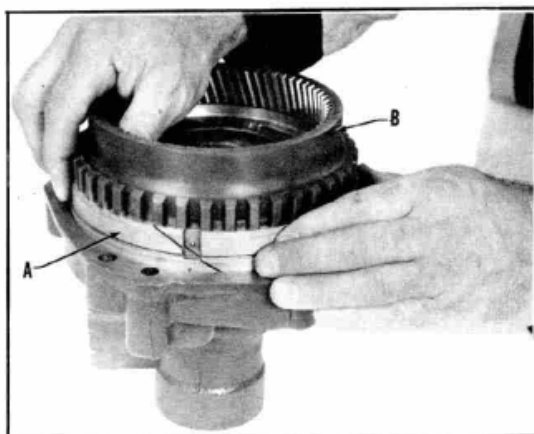

Figure 21
4. Remove the reverse internal gear (B) and the reverse stationary cone (A) from the rear bearing retainer by compressing the stationary cone by hand, Figure 21.